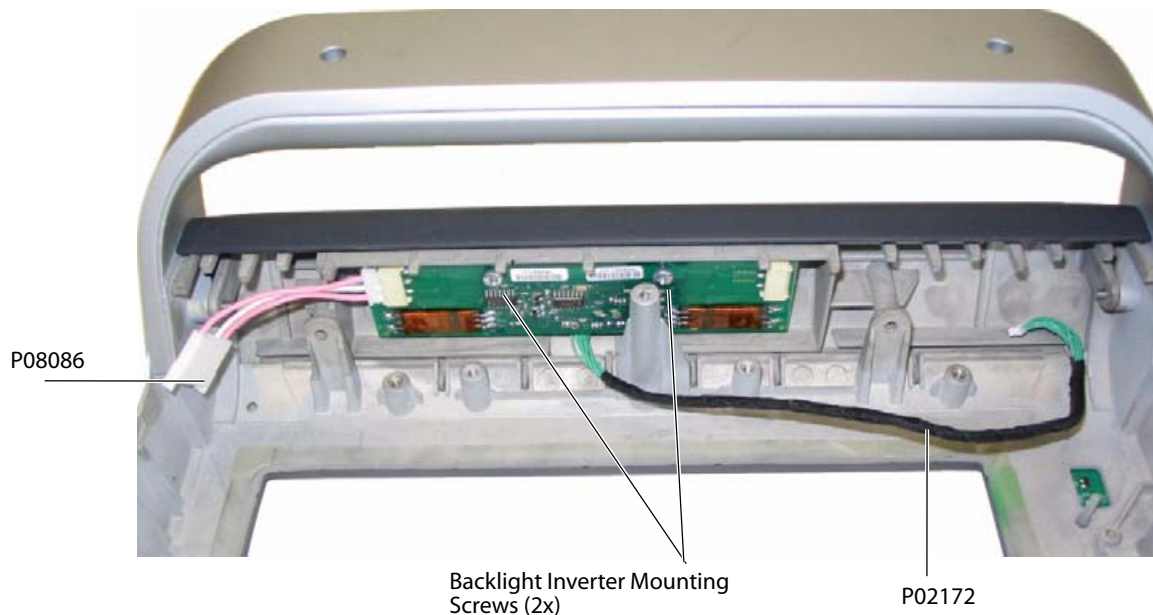

Figure 4.30 Backlight Inverter Mounting Screws
- 2 Remove the two screws that mount the Backlight Inverter PCBA to the system enclosure as shown in Figure 4.30.